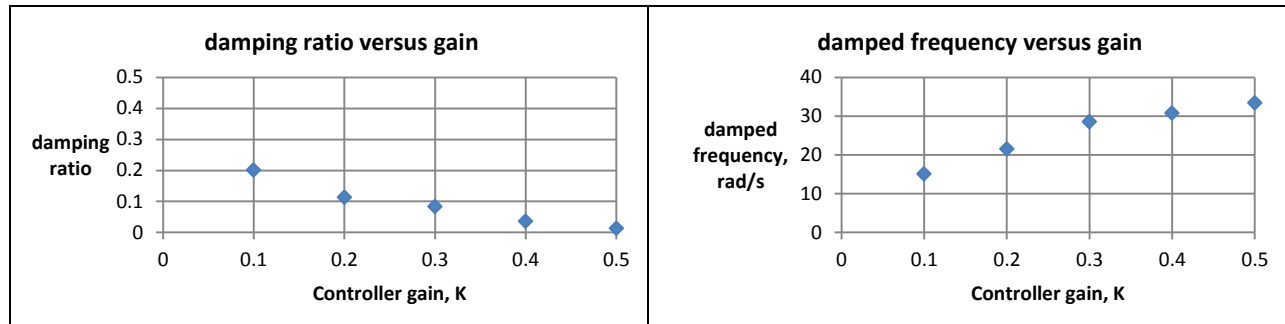

Figure 3: Damping ratio and damped natural frequency versus gain
3. Use Excel to create a table of controller gains (K), damping ratio (ζ), natural frequency (ω_n), damping factor (σ_d) and damped frequency (ω_d).
4. Create a plot of the damping ratio (ζ) versus gain to include your memo and describe the relationship between the two (see Figure 3).
5. Create a plot of the damped natural frequency (ω_d) versus gain to include in your memo and describe the relationship between the two (see Figure 3).